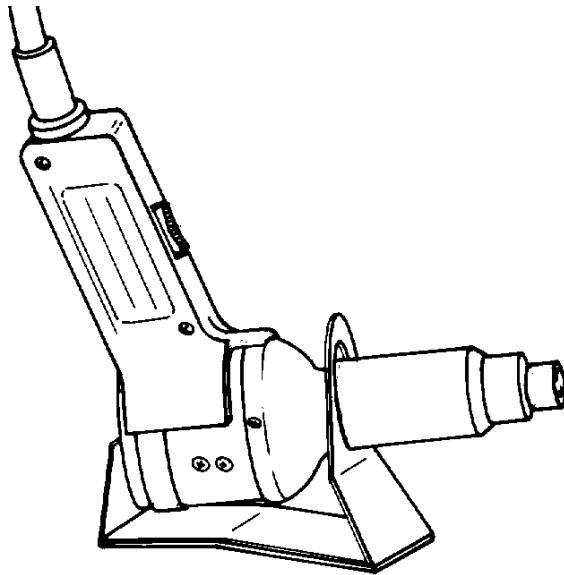

Figure 27. Mini-Gun Hot Air Tool, CV-5300/CV-5302 on Bench Stand
a. Mount the mini-gun on its stand or operate it as a hand held tool (Figure 27).
(1) Bench stand clips into back of the heat gun body and onto nozzle, providing for various operating positions.